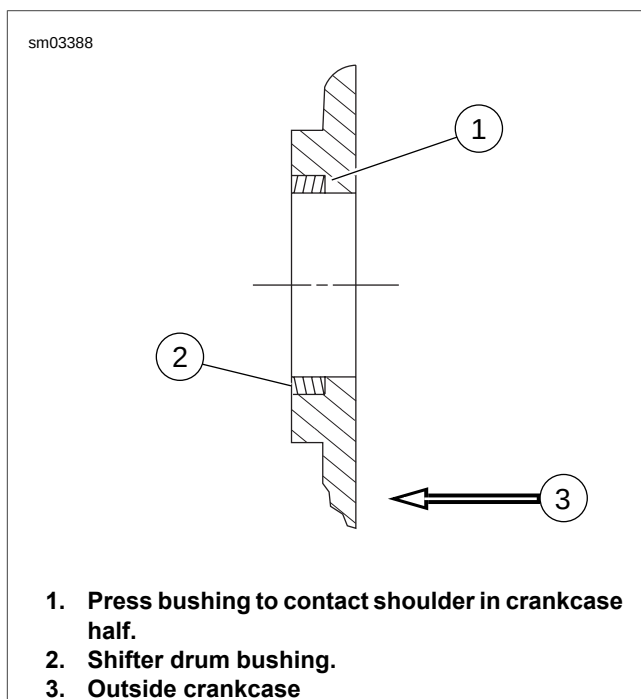

Figure 5-87. Shifter Drum Bushing Assembly
2. See Figure 5-87. Lay bushing squarely over bore. Using a pressing tool larger than OD of bushing, press bushing into bore until tool contacts crankcase.